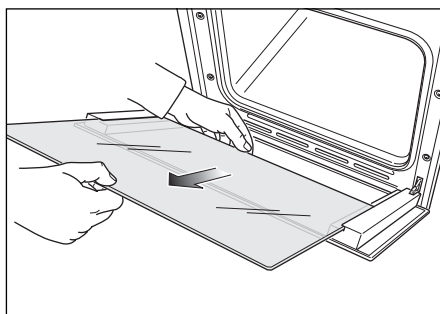

Fig. 44d
- Gently pull out the inner pane of glass (Fig. 44d).